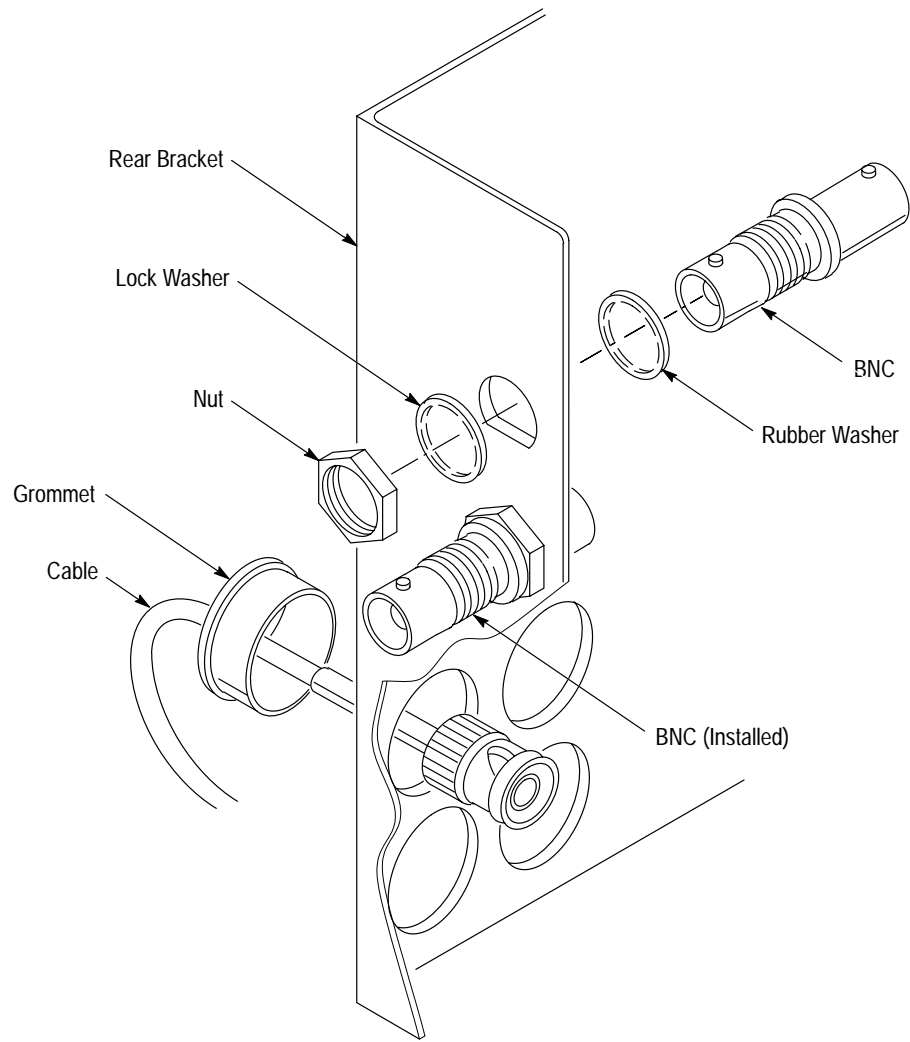

Figure 8: BNC and Grommet Installation
- b. *Assemble the hardware:* Unpackage and identify the BNC connector hardware in the cable feed-through kit using Figure 8 as a guide. Use Figure 9 to identify the remaining hardware in the kit.
- Insert a cable through one of the grommets, and then insert the cable and grommet into the hole. Press the grommet into the hole to seat it in the bracket. (See Figure 8.)